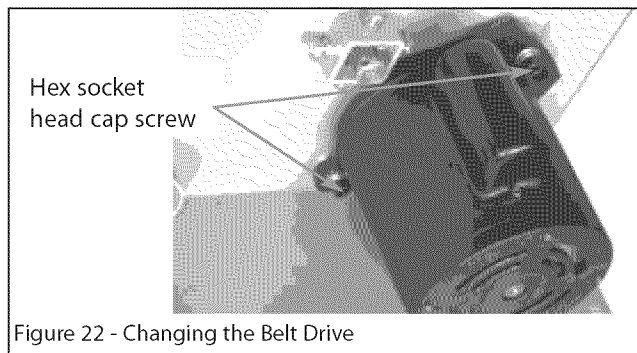

Figure 22 - Changing the Belt Drive
- Using a M6 hex "L" wrench (not provided) to release the hex socket head cap screw on motor mounting flange (see Figure 22).